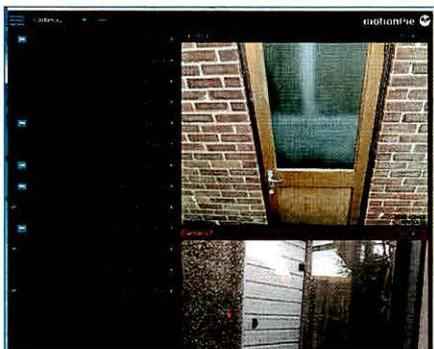

FIGURE 1: MotionPie web interface.
**CONFIGURING MOTIONPIE.** Once you have your Pi up and running with a camera or two connected, it's time to access the web interface, see **Figure 1**. To do this, you need to know the IP address that MotionPie was allocated when it connected to your network. The simplest way to find the IP address is to log in to your home router and find the home network page where you should see the MotionPie listed as one of the connected devices, see **Figure 2**. The network name given to the MotionPie is 'mp' followed by the Pi's serial number. On my system the MotionPie shows as 'mp-29bafc53'. Once you've located the MotionPie on your router, it's a good time to configure the router to allocate the same IP address. This is a neater solution than